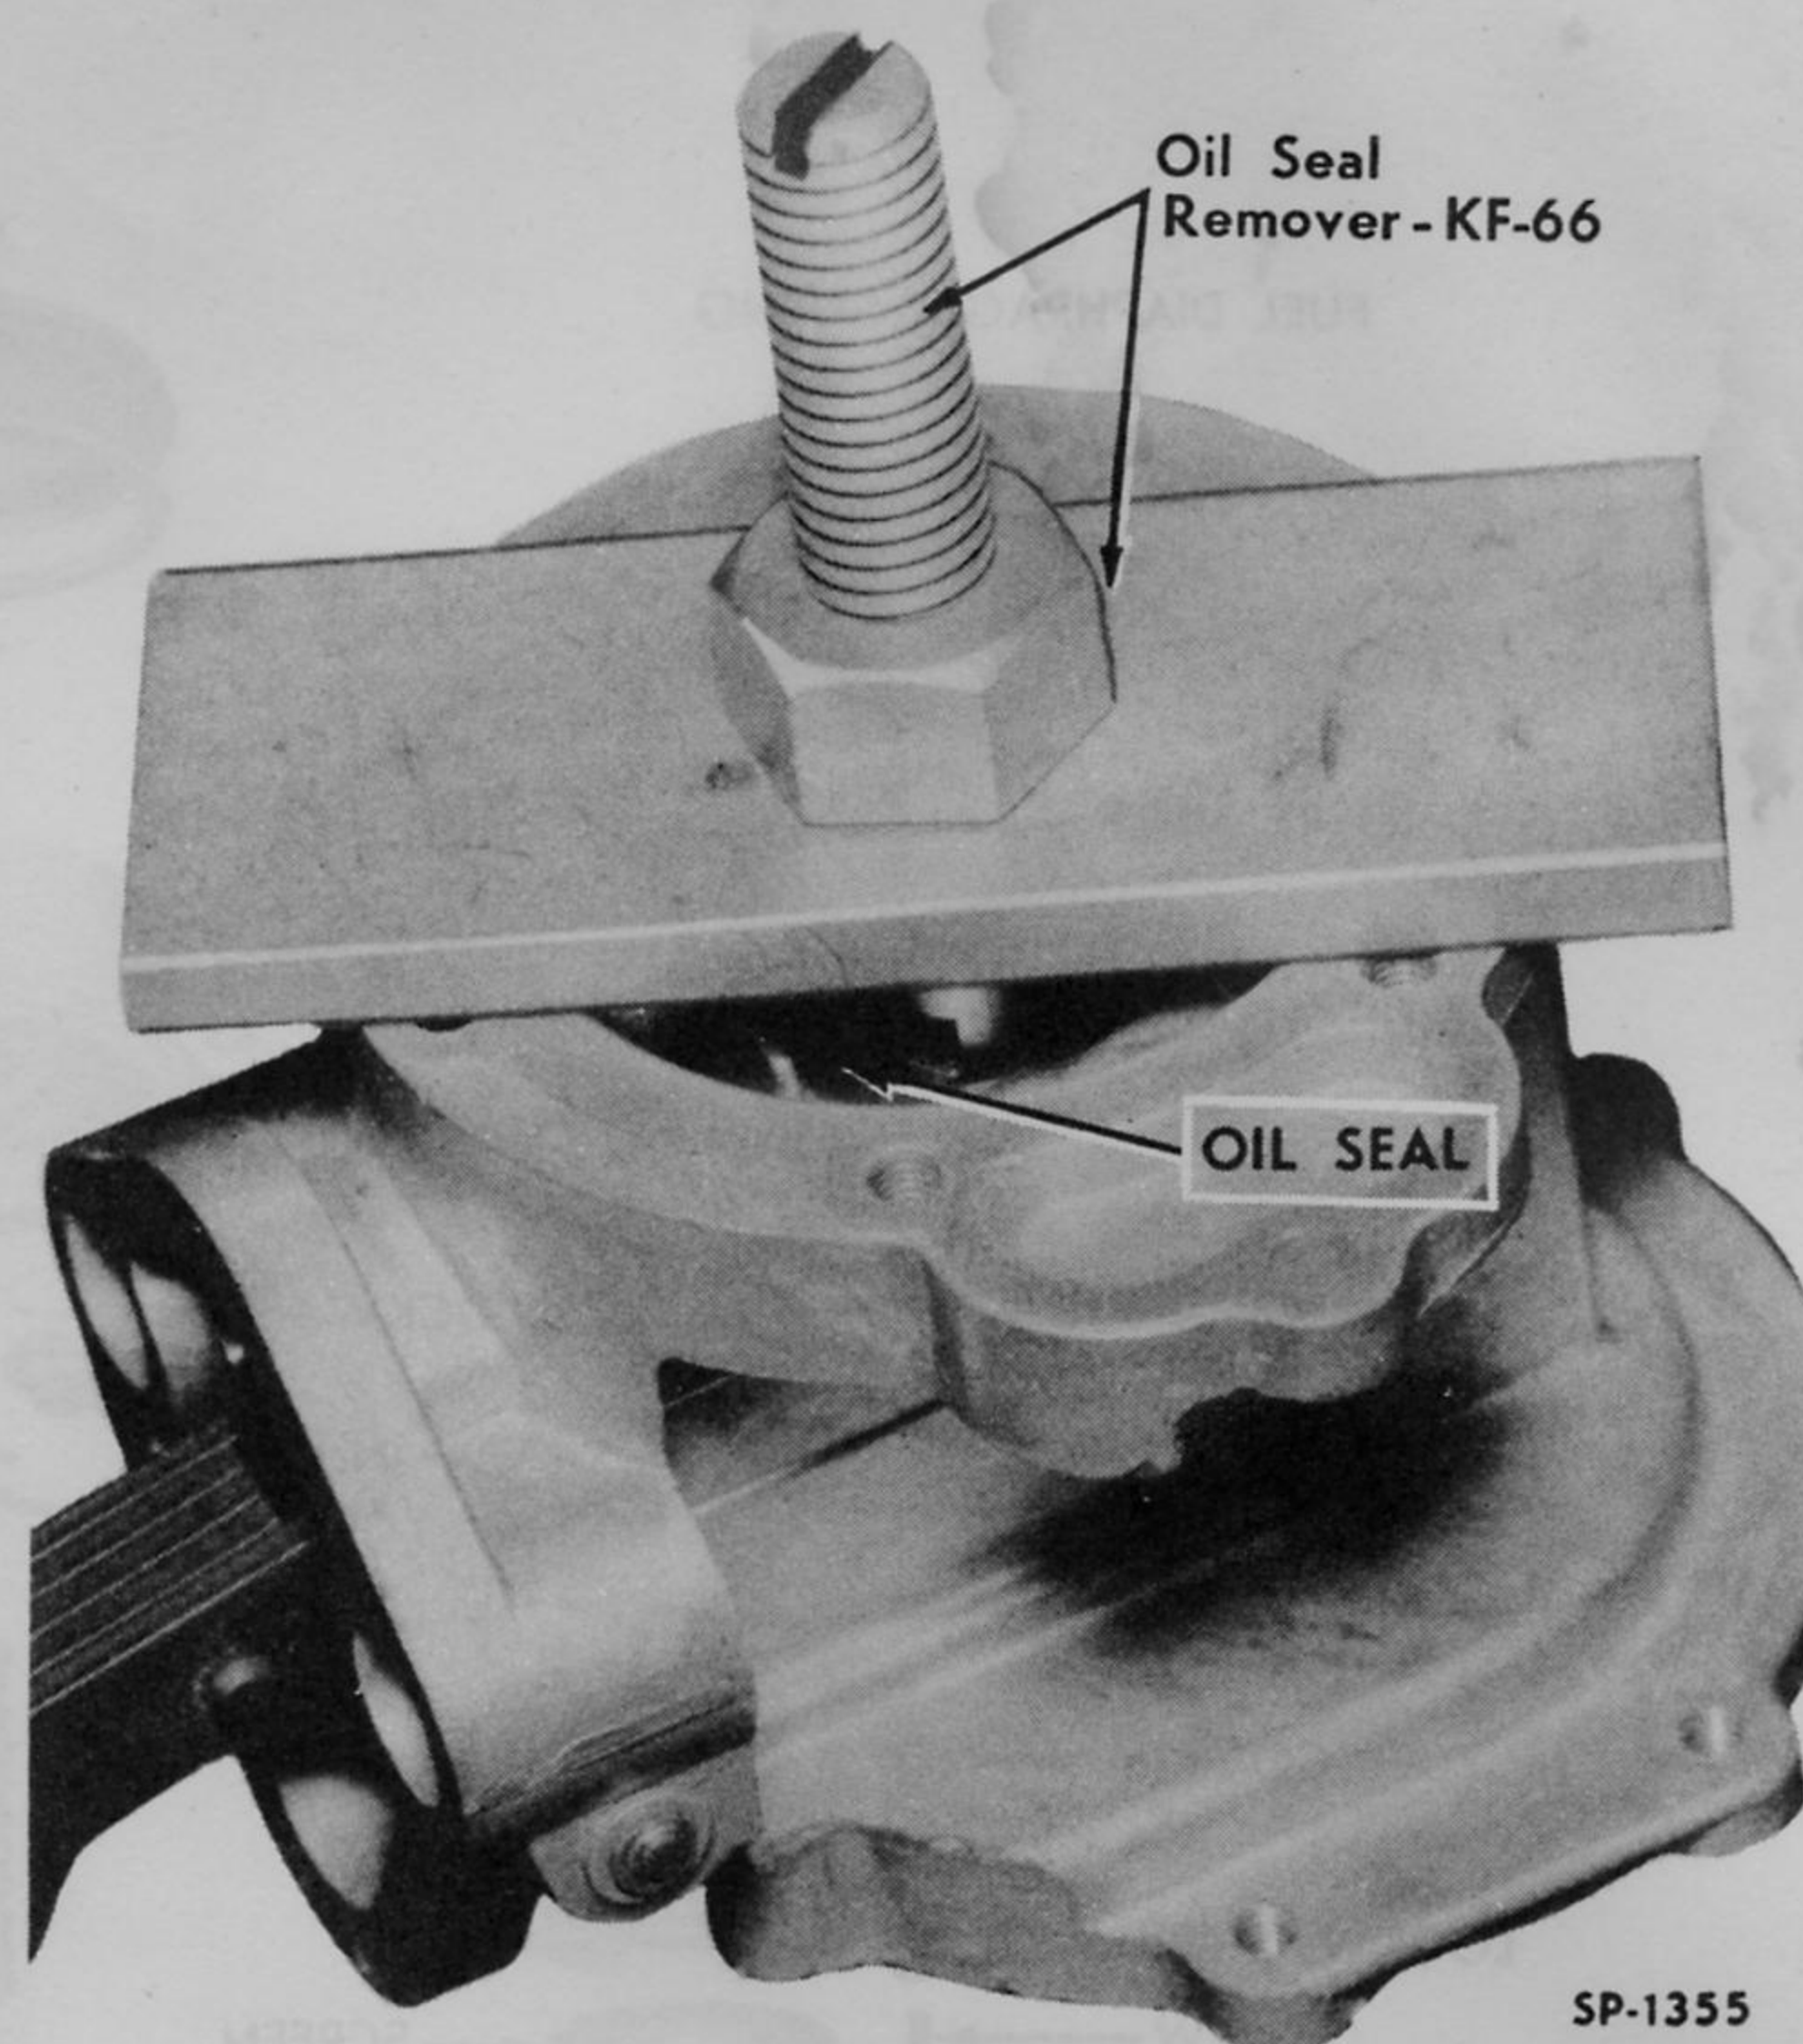

Fig. 116—Removing Fuel Pump Body Oil Seal
2. Fuel Pump Body. Replace the fuel pump body if cracked, if any of the threaded holes are stripped, or if the diaphragm surface is damaged. Inspect the seal, if worn or damaged, remove it from the body with Seal Remover KF-66 (Refer to Fig. 116).
3. Fuel Pump Body. Replace the fuel pump body if it is cracked, the diaphragm surfaces are damaged, or the threads are stripped. If the oil seals are worn or damaged, remove them from the body with Seal Remover KF-66 (Fig. 116).